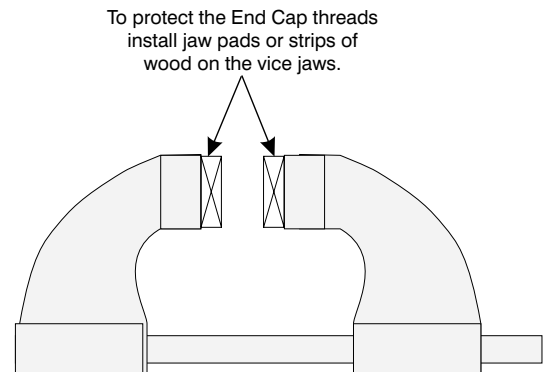

Figure 8-7. Pad the vise jaws to protect the End Cap threads.
- 1. Before securing the Tail Assembly for disassembly, protect the threads of the End Cap (10) by padding the vise jaws or wrapping the threads with a heavy cloth or canvas.
- a. If a vise is used, install the jaw pads. If jaw pads are not available, tape or bind strips of wood to the vise jaws as shown in Figure 8-7.